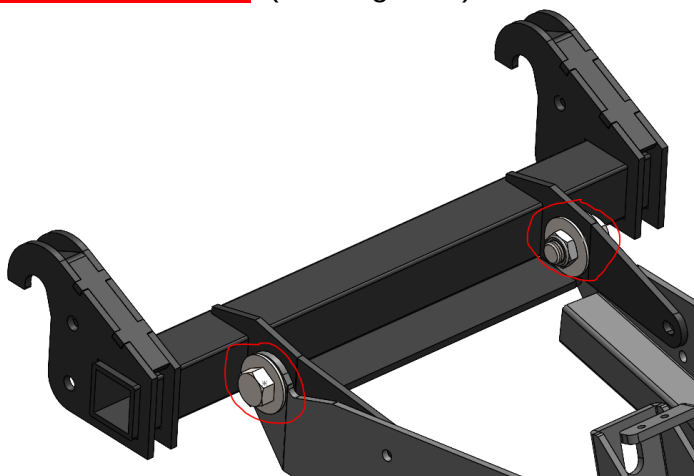

Figure 2
2. Put one 3/4" Flat Washer on each of the 3/4"-10x1.5" Hex Bolts, then insert those hex bolts through the 3/4" holes in the pushtube. Put one 3/4" Flat Washer on the end of the bolt after it has been inserted through the pushtube and MA11752A Plow Mount. Loosely thread one 3/4"-10 Nylock Nut onto the end of each 3/4"-10x1.5" Hex Bolt. **Do not tighten these at this time.** (See Figure 2)